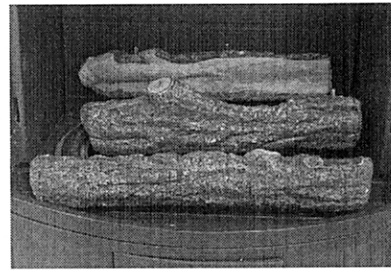

Figure 7
- Fasten decorating logs 1, 2, 3 onto the correspondent angle iron (Figure 7).